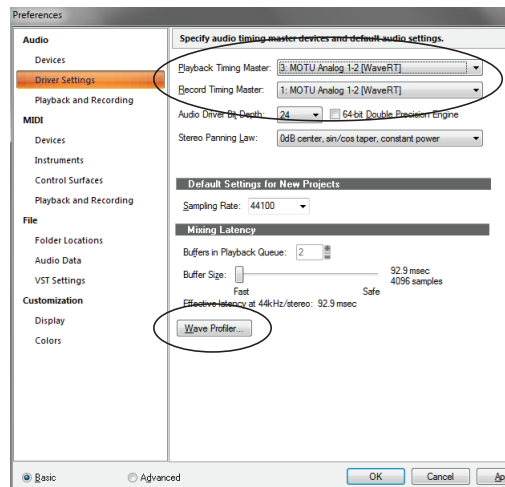

Figure 7-10: Make sure you have chosen a 896mk3 input and output for the playback and recording timing master settings.
- 2 Choose an 896mk3 input and output for recording and playback timing as shown below in Figure 7-10. It doesn't matter which input or output you choose.